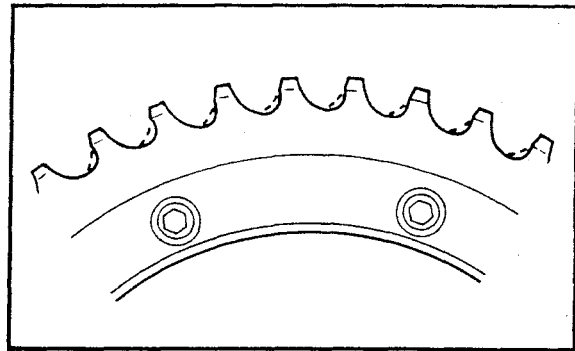

Figure 2-120. Worn Sprocket
2. See Figure 2-120. If teeth are worn to a fish hook shape, sprocket(s) must be replaced. Replace sprocket(s) if there is any damage or cracks.